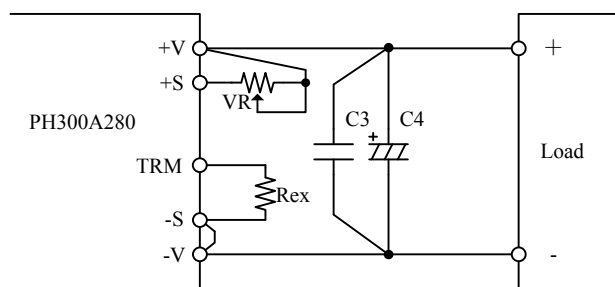

Fig.6-13 Example of Connecting External Resistor (To adjust output voltage for whole range)
Output voltage can be adjusted within specifications of output voltage adjustment range if resistance values of external resistor (Rex) as follows and external variable resistor (VR) are connected like a Fig. 6-13. Take note that output voltage do not become out of specifications when output voltage is adjusted.